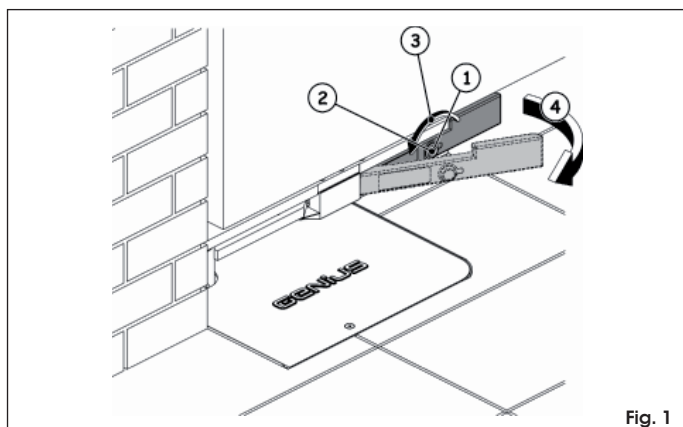

Fig. 1
- open the lid of the lock (Fig. 1 rif. ①)
- insert the release key in the lock (Fig. 1 rif. ②)
- turn the key in the direction of the post, as far as it will go (Fig. 1 rif. ③)
- pull the lever out (Fig. 1 rif. ④)